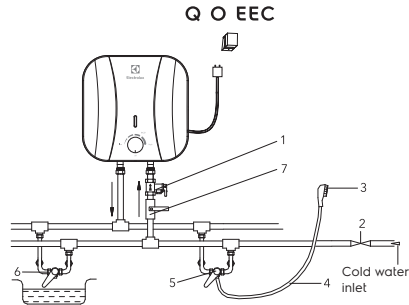

Figure 5
4. If the water supply system should be mounted for several water draw-off points, use the connection method (see Figure 5).